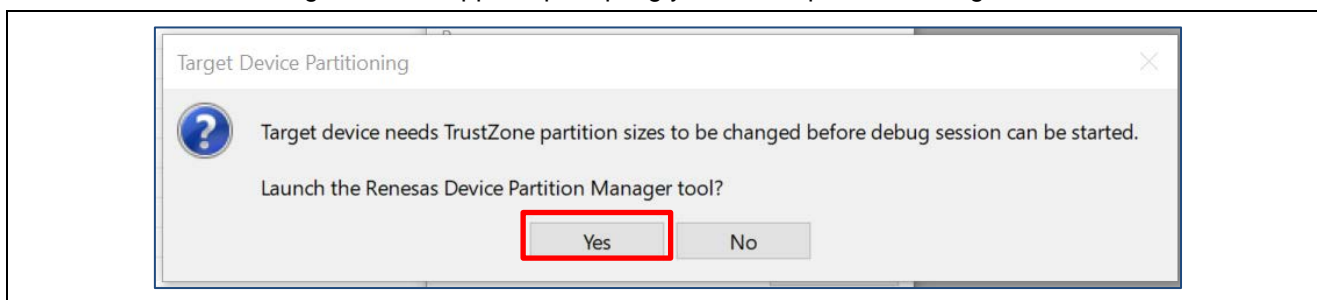

Figure 74. Choose to Launch Renesas Device Partition Manager
4. If the current MCU IDAU region setup differs from the boundary calculated from the Secure project, the window shown in Figure 74 will appear, prompting you to set up the IDAU region.